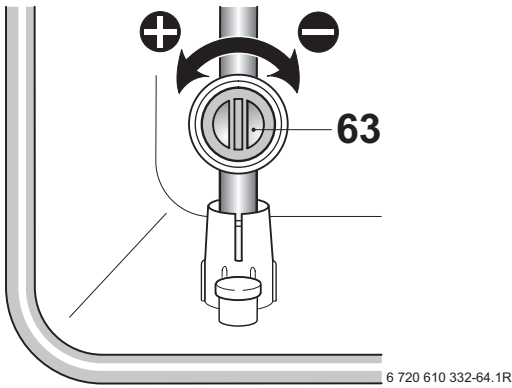

Fig. 41
- Adjust the gas flow restrictor (63) to obtain the CO₂ level given in Table 16. Refer to fig. 41